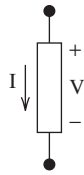

FIGURE P2.20 Image for Problem 2.20.
- 2.20 (B) True/false: The notation in Figure P2.20 conforms to passive reference.